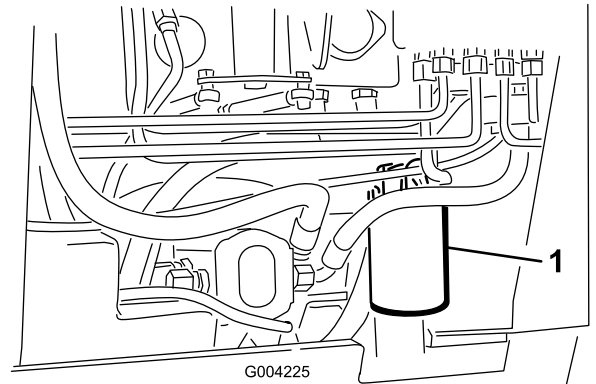

Figure 60
4. Place a drain pan under the filter (Figure 60).
5. Remove the old filter (Figure 60) and wipe the surface of the filter adapter gasket clean.
7. Install the replacement hydraulic filter onto the filter adapter (Figure 60). Tighten it clockwise until the rubber gasket contacts the filter adapter, then tighten the filter an additional 3/4 turn.